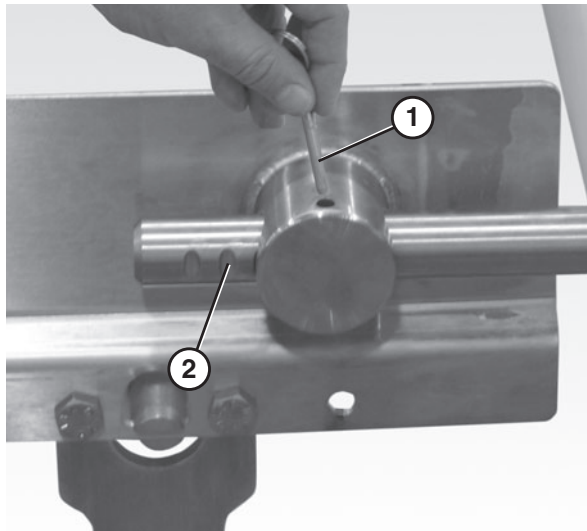

Figure 65
1. Remove both pull pins (Figure 65, item 1) on the tension end of the conveyor.
2. Extend the idler tail to the next groove (Figure 65, item 2) on the bearing shaft.